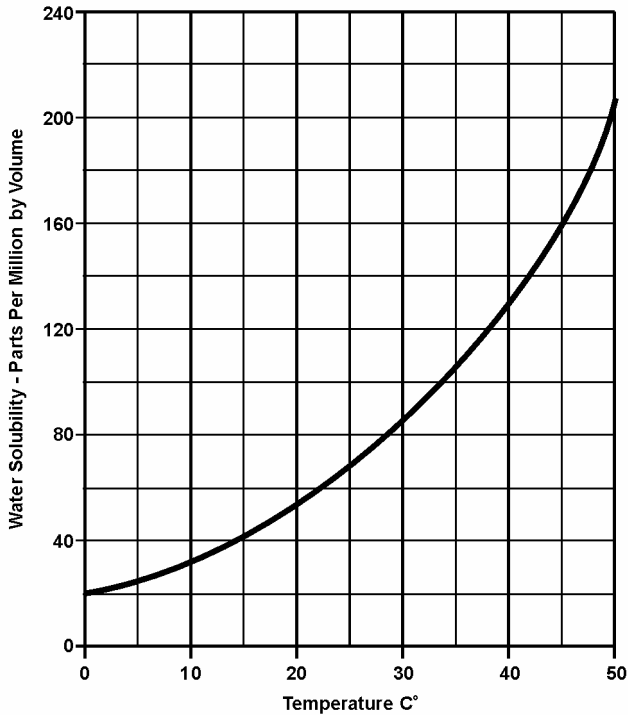
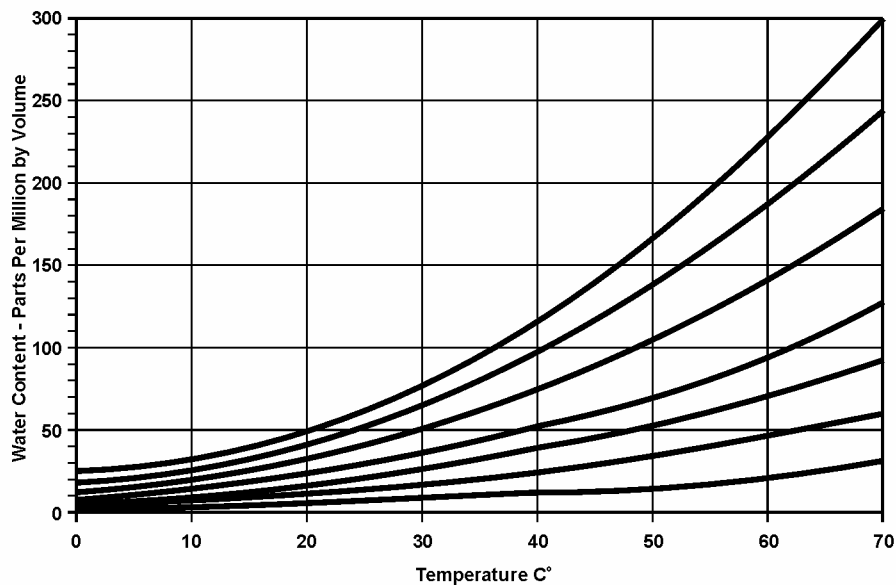

Figure 51 – Maximum Amount of Water Dissolved in Mineral Oil Versus Temperature.
Figure 52 – Transformer Oil Percent Saturation Curves.
The amount of moisture that can be dissolved in oil increases with temperature (see figure 51). This is why hot oil is used to dry out a transformer. A water/oil emulsion can be formed by purifying oil at too high temperature. When the oil cools, dissolved moisture forms an emulsion [21]. A water/oil emulsion causes drastic reduction in dielectric strength.
6.1.11.1 Dissolved Moisture in Transformer Oil – Moisture is measured in the dissolved gas analysis in ppm. Some laboratories also give percent saturation, which is the percent saturation of water in the oil. This is a percentage of how much water is in the oil compared with the maximum amount of water the oil can hold. Figure 51 shows it can be seen that the amount of water the oil can dissolve is greatly dependent on temperature. The curves below (figure 52) are percent saturation curves. On the left line, find the ppm of water from your DGA. From this point, draw a horizontal with a straight edge. From the oil temperature, draw a vertical line. At the point where the lines intersect, read the percent saturation curve. If the point falls between two saturation curves, estimate the percent saturation based on where
the point is located. For example, if the water is 30 ppm and the temperature is 40 °C, you can see on the curves that this point of intersection falls about halfway between the 20% curve and the 30% curve. This means that the oil is approximately 25% saturated. Curves shown on figure 52 are from IEEE 62-1995 [20].